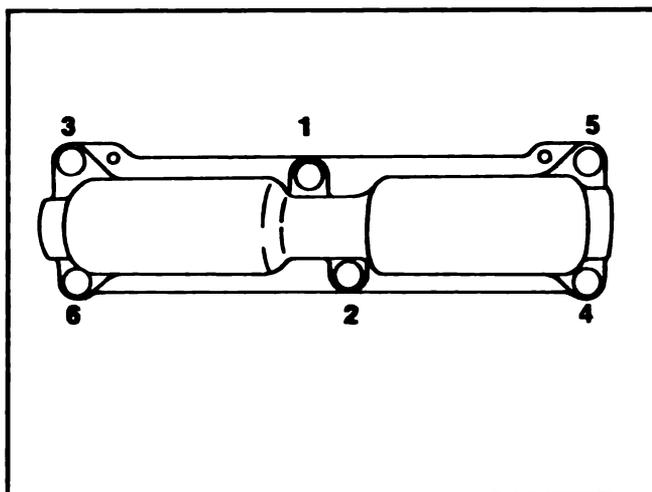

Fig. 14-29 (N114236). Tightening Sequence For The Cam Follower Housing.
4. Install the capscrews and lockwashers. Tighten the capscrews to 15 ft.-lbs. [20 N•m] torque. Then, tighten the capscrews to 30 to 35 ft.-lbs. [41 to 47 N•m] torque. Follow the sequence in Fig. 14-29 to tighten the capscrews. Lubricate the ball end of the push rods with